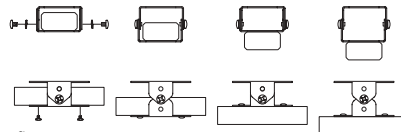

figure 1
2. Mount the transponder with the aid of the mounting brackets included in the package. Depending on the situation, make use of the U or L sections (see figures 1 and 2).
Vertical: Upward / downward. Ensure that the vehicle is level. For the adjustment of the vertical position use the spirit level supplied. Hold this with one of the ends at right angles to the lens of the transponder and screw the bracket in position when the correct alignment has been reached (see figure 1).